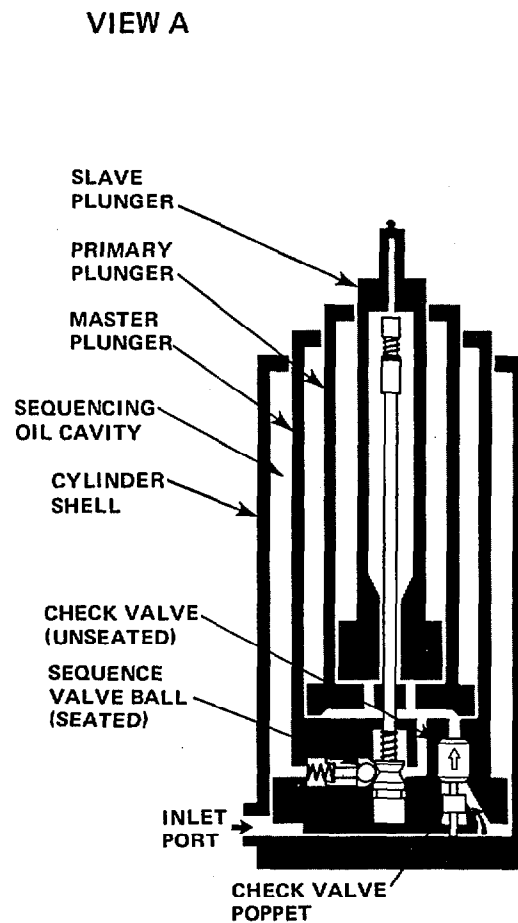

Figure 8. Hoist Cylinder Sequence of Operation
5.1-4 Cylinder Operation (Figure 8)